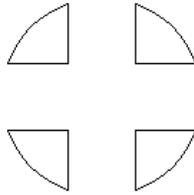

Fig. 1.7.17
**Subtract:** Retain the none-overlapping part of main object, see Fig.1.7.17.